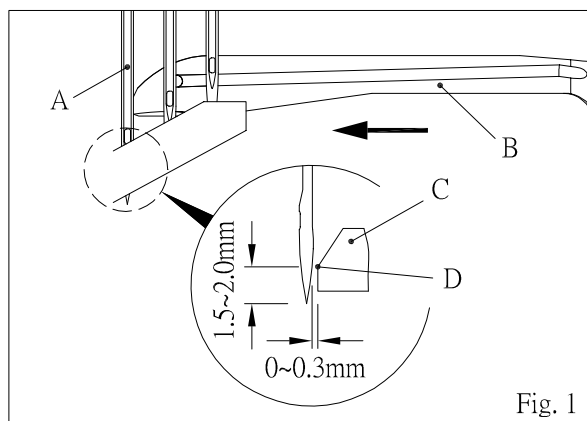

Fig. 1
When needle bar reached to its lowest dead point, the ridge line C of rear needle guide (A) should be positioned at the center of right needle eye B. (Fig. 1)
How to set the angle and timing of front needle guide : When looper B reach the center of left needle A, the ridge line D of frons needle guide C should positioned at 1.5~2.0 mm above from the tip of needle and the clearance between left needle A and front needle guide C should be 0~0.3 mm and when looper B retreated to right needle E, the clearance between needle and front needle guide C should be 0~0.3 mm. (Fig. 1、2)
The distance between spreader A and the surface B of needle plate should be 8.5~9.5 mm. (Fig. 1)